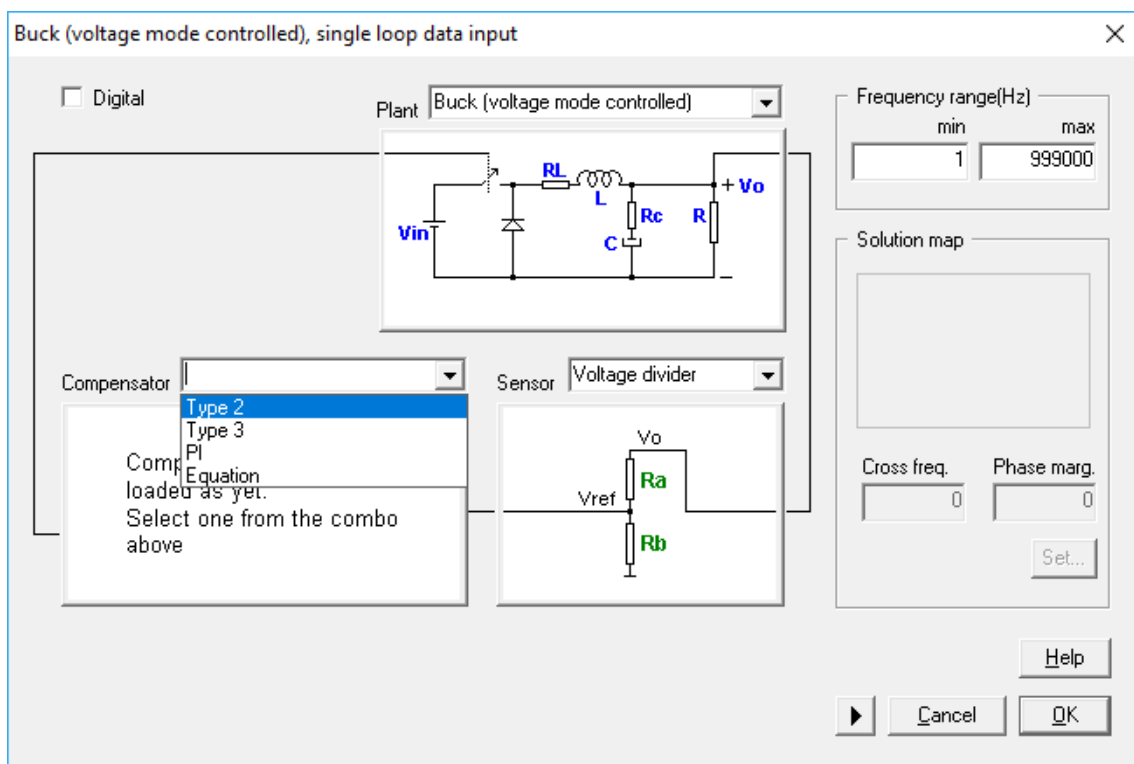

Figure 8: Choosing the compensator
5. Select and configure the compensator. See Figure 8.